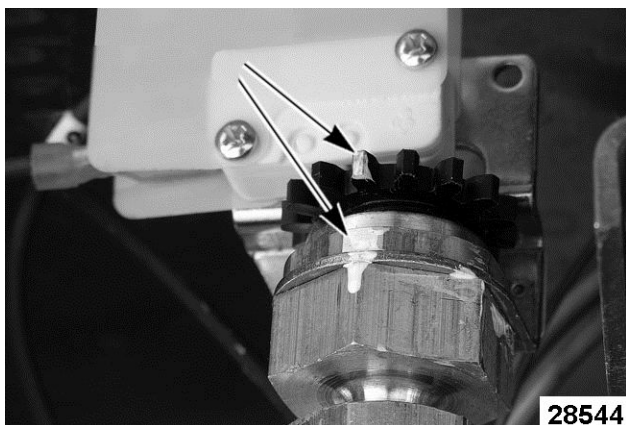

Fig. 79
6. Mark one tooth of pressure switch adjustment wheel Fig. 79 and make a second mark straight down onto the body of pressure switch to aid in identifying position of wheel.